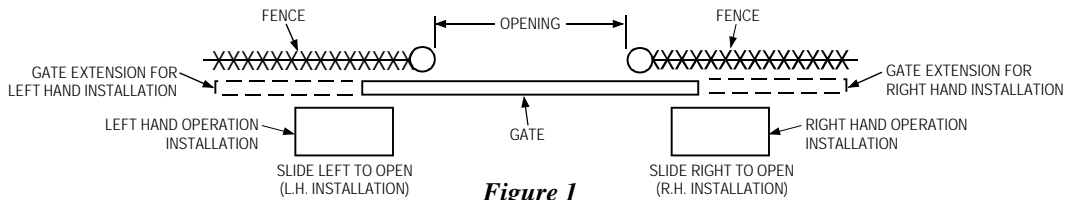
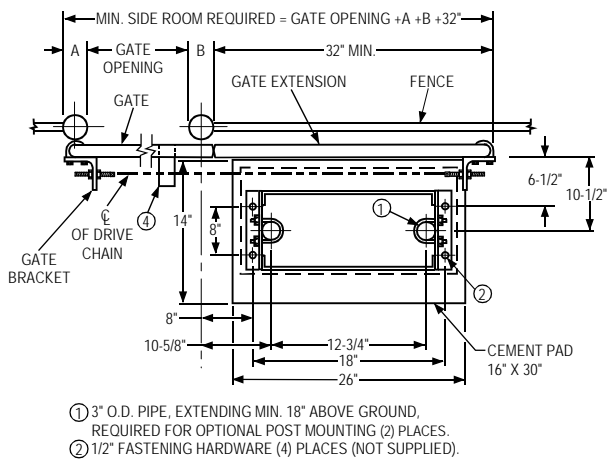
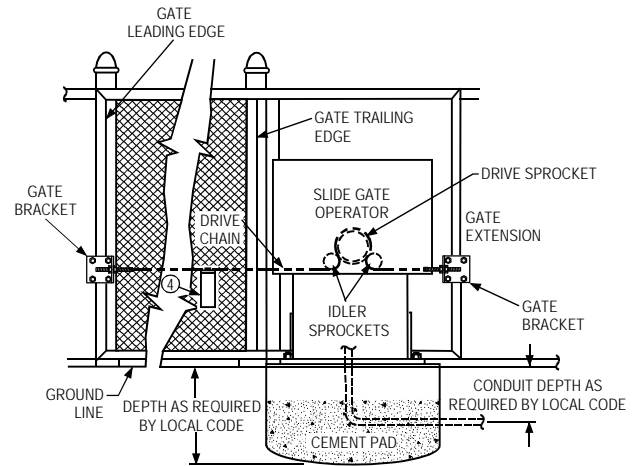

Figure 1
Figure 2
Figure 3
Gate and/or extension must extend beyond the operator location as shown in fig.1, fig. 2, and fig. 3. Operator will be placed as shown, in fig. 1 page 5, for left and right hand installation.
CEMENT PAD: Lay out per drawing (See Fig. 2 & 3). Be sure top surface is level. Allow 2 days cure time before installing operator. Bolt pattern must be parallel to gate as shown in (Fig. 2).
- (2.) Using 1/2" hardware (not supplied), bolt assembled unit to pad, being sure to center unit on cement pad (See Fig. 2 & 3). **Note:** sprockets must face fence.
- (1.) Install gate bracket per figure 2 and 3. Do not fully tighten at this time.
- (5.) Thread free end of chain under first idler sprocket, up and over drive sprocket. then under second idler sprocket as shown (See Fig. 3).
- (7.) Check gate bracket height at both ends of gate to be sure that chain aligns with the operator (*See Fig. 3*).
- (9.) Adjust chain tension with 3/8 inch outside nuts so that the chain sags slightly and install chain support brackets (*See Fig. 3, 4 and 5*).
- (10.) Check chain and sprocket alignment at both ends of gate and tighten 1/2" inside nuts against gate brackets to secure position (*See Fig. 2 and 5*).
Refer to (Fig. 1) to determine hand of operator required for this installation. This unit is factory setup for right hand operation.